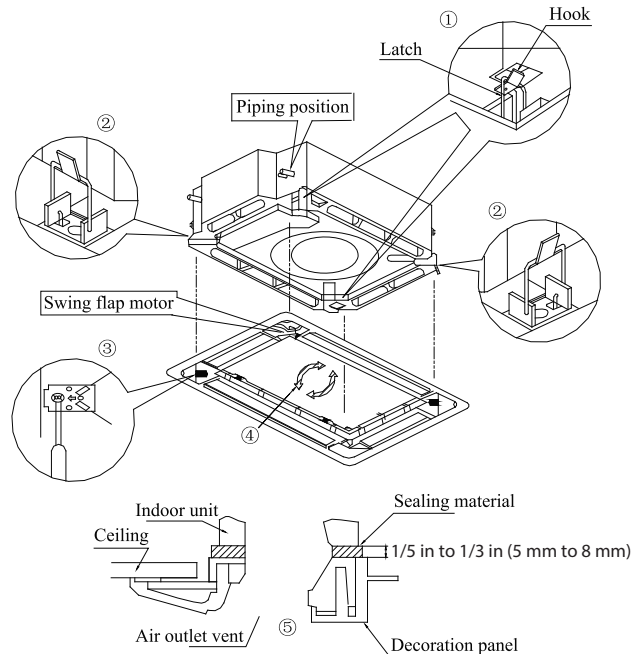

Fig. 68 - Panel Installation
1. Set the panel to the indoor unit body by matching the position of the panel's swing flap motor to the panel's piping position to the indoor unit's piping position (see Fig. 68).
- (4.) Adjust the panel by turning it toward the direction pointed by the arrow (see Fig. 68) so the adjust board connects well to the ceiling.